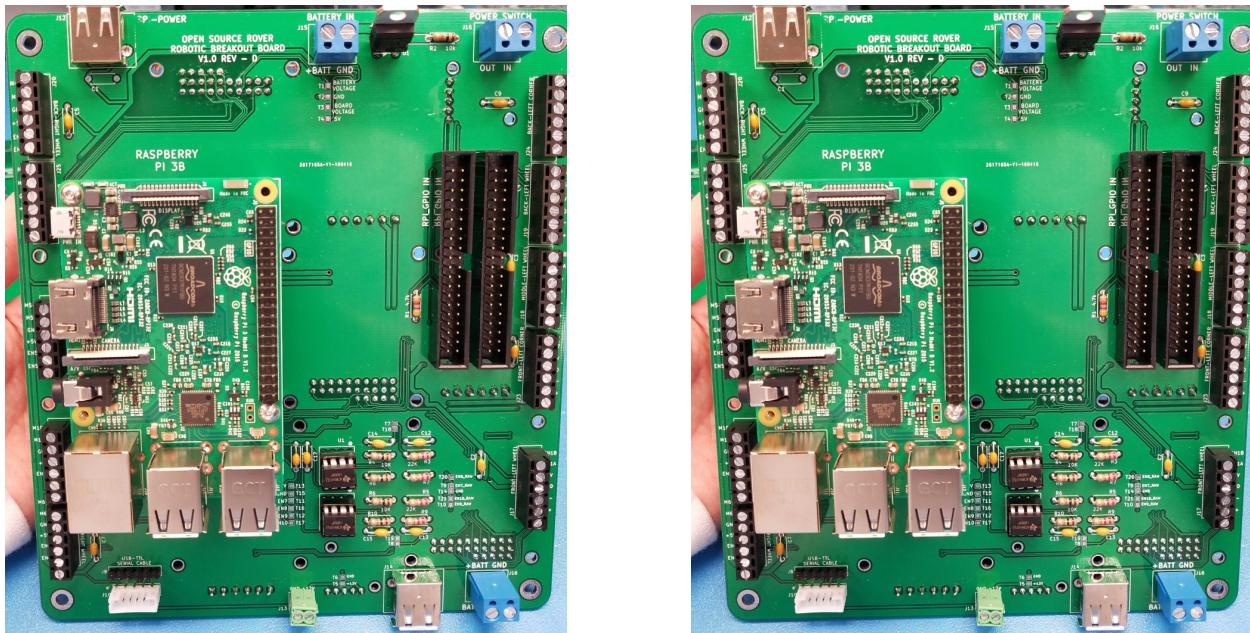

Figure 15: RPi Install
1. Insert the Raspberry Pi into the Board, making sure that the USB ports face downward on the board. Figure 15 show this orientation.